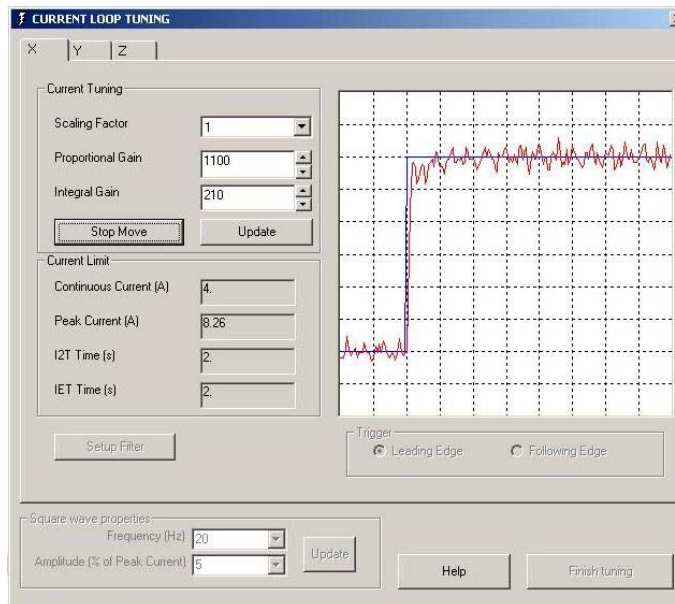
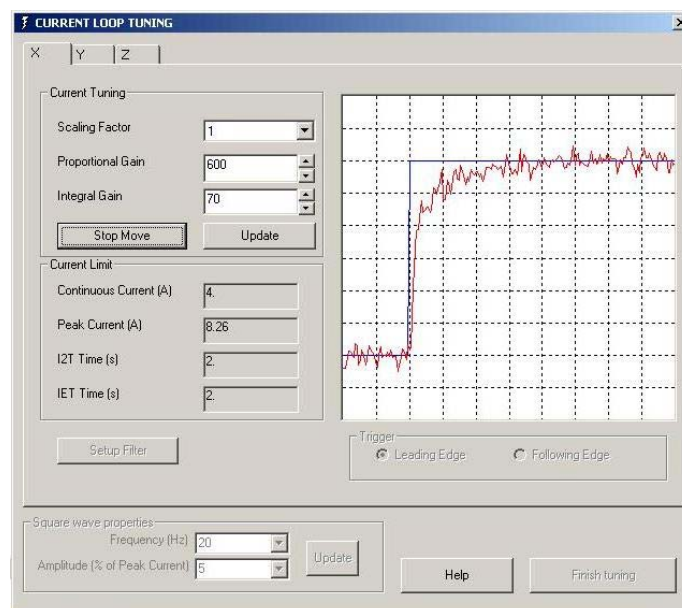

Figure 4
Figure 5
2. Experience has shown that at this stage it is best not to tune this response to follow the square wave precisely as shown in figure 4. It is better to achieve a response similar to the example shown in figure 5 below with some initial rounding of the waveform. Adjust the proportional and integral gain until a good response is obtained.